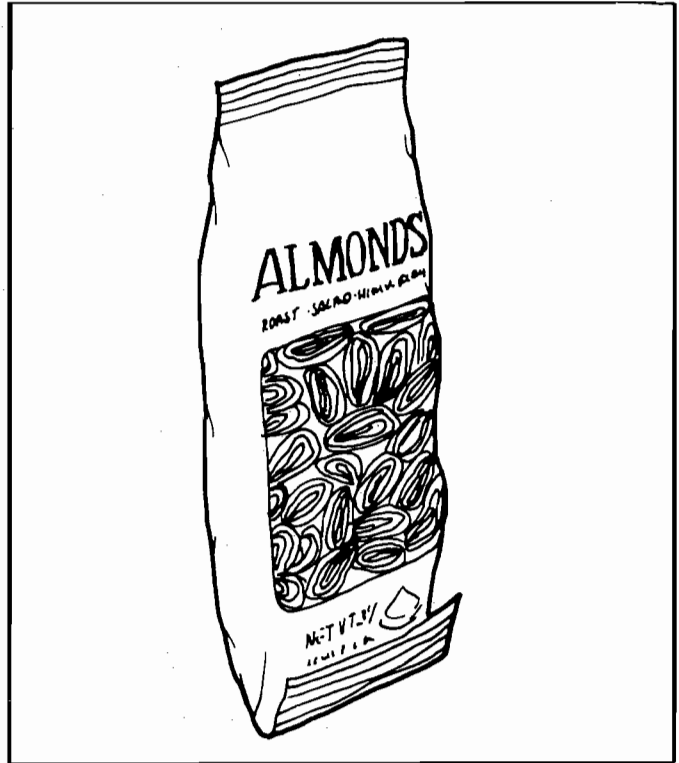

Figure 8. FOLD BAGGED ITEMS BOTTOM EDGE FORWARD AND UP.
9. BAGGED ITEMS in the 8-selection shelves if not loaded properly could be a problem. The sealed edge of the bag may get under the spiral wire causing the product to hang up after it has been vended. It is recommended that the lower edge of these types of product be folded forward and up (see Figure 8) next to the product before inserting into the spiral space.